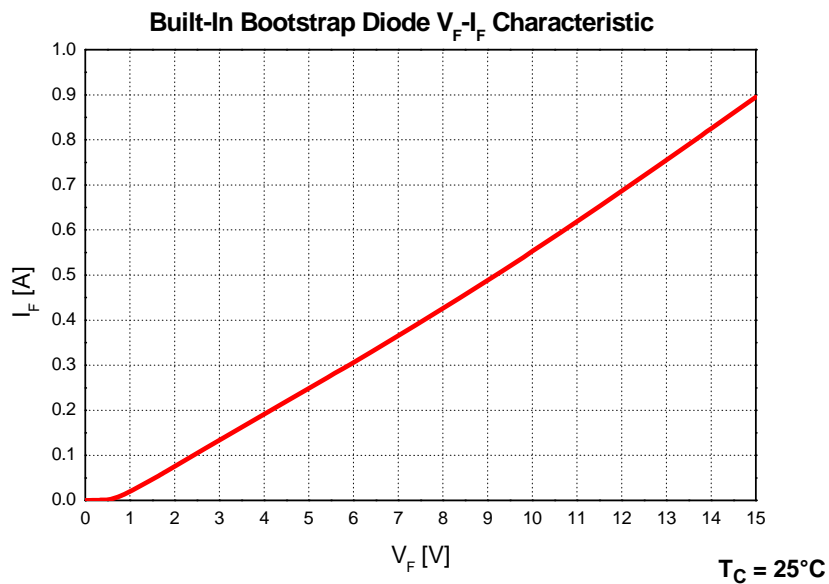

Figure 2. Built-In Bootstrap Diode Characteristics (Typical)
5. Built-in bootstrap diode includes around 15 Ω resistance characteristic. Please refer to Figure 2.